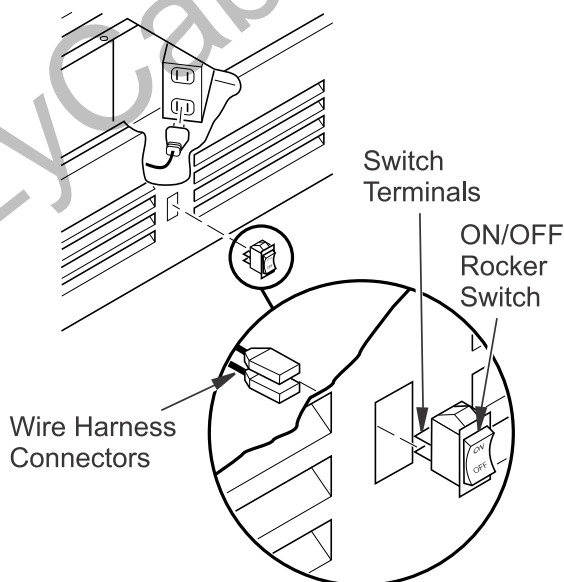

Figure 17 - Connecting Rocker Switch
- Remove 2 connectors from ON/OFF rocker switch located on wiring harness (see Figure 17).